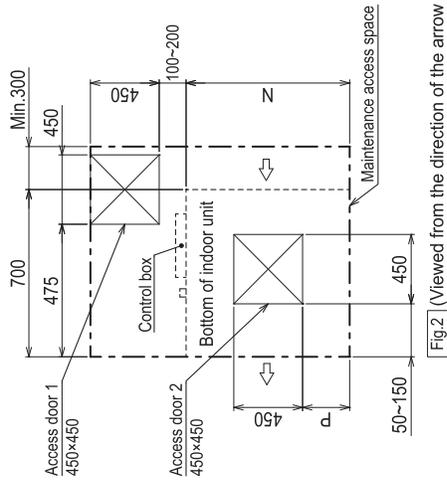

Fig.2 (Viewed from the direction of the arrow A)
- Create access door 1 and 2 (450x450mm each) as shown in Fig.2.